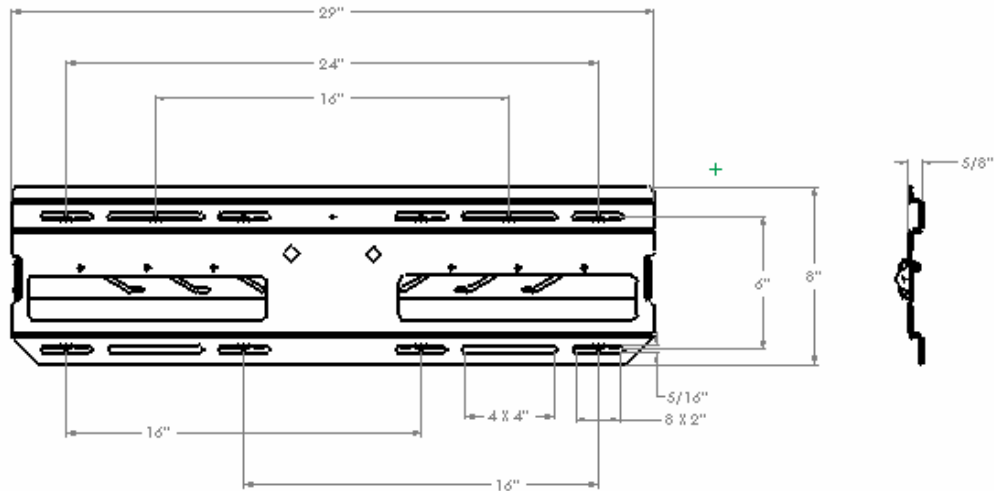

Figure 7. Wall Plate Dimensions
1. Determine a suitable mounting location by using a stud-finder and lift the wall plate (10) into place (see Figure 7).